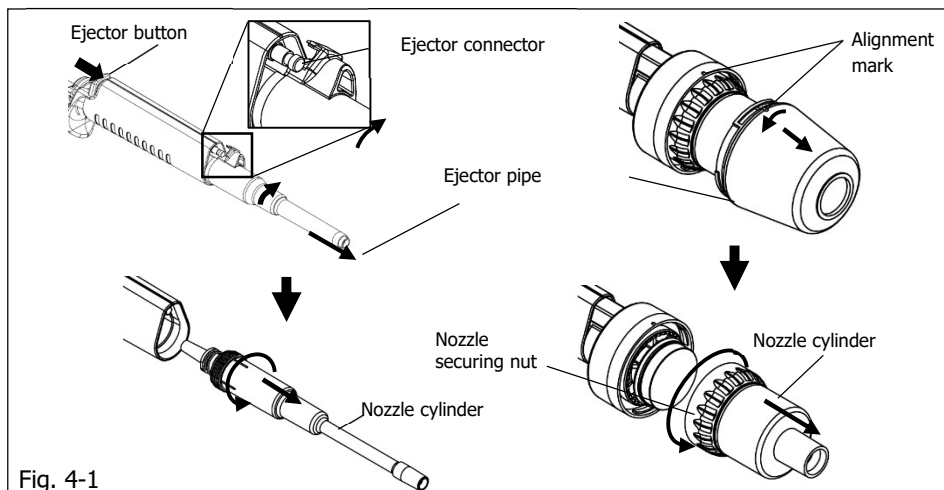

Fig. 4-1
1) Pulling out the ejector pipe (Fig.4-1)
2) Turn the nozzle cylinder('Nozzle securing nut' for 5000 μ L and 10000 μ L) to the direction of the arrow, and pull it out.(Fig. 4-1)